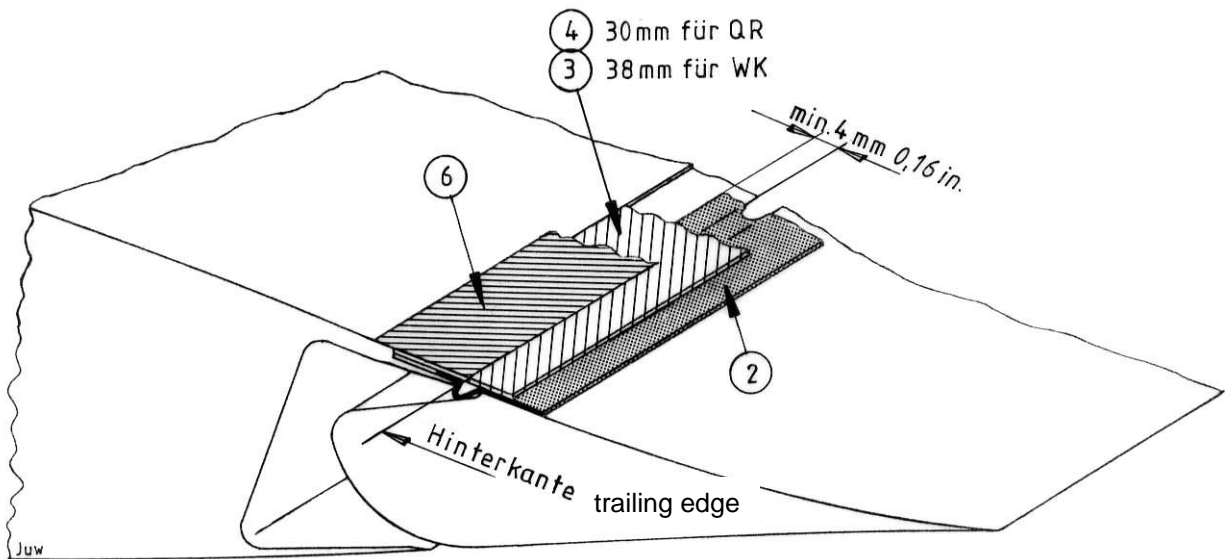

FIG. 3 Lower Wing Surface
Then remove the temporary positioning tape (1) first applied, peel the protective backing from the plastic fairing strip (3) and (4) and stick it on flush into the recessed step of the wing along the whole of its span by means of its adhesive film layer (Fig. 3). For sticking the fairing tape in position, keep it under spanwise tension of about 10 kp (20 lb).
- 4.5 Finally, a protective adhesive tape (6) is applied over the abutment of the front edge of the plastic fairing strip (3) and (4) and the step in the wing (Fig. 3). This tape should be as thin and moisture-proof as possible; an example of a suitable tape would be white Tesa film No. 104, approx. 25 mm wide. This protective tape serves to prevent the detachment of the front edge of the plastic fairing strip [elastic lip seal] which might result in dangerous flight characteristics.